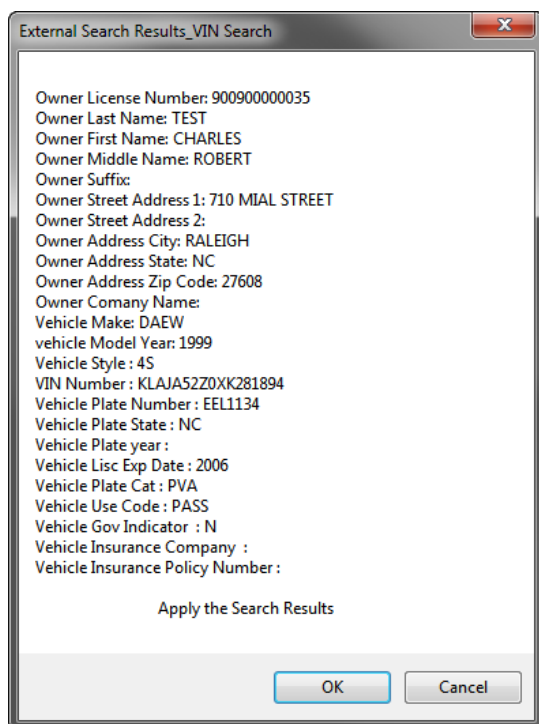

Figure 41. Search by VIN Number Results Example
3. To search by the VIN number, enter the VIN number in the **VIN Number** field and click **Search**. If a match exists, the results display, as shown in Figure 41.